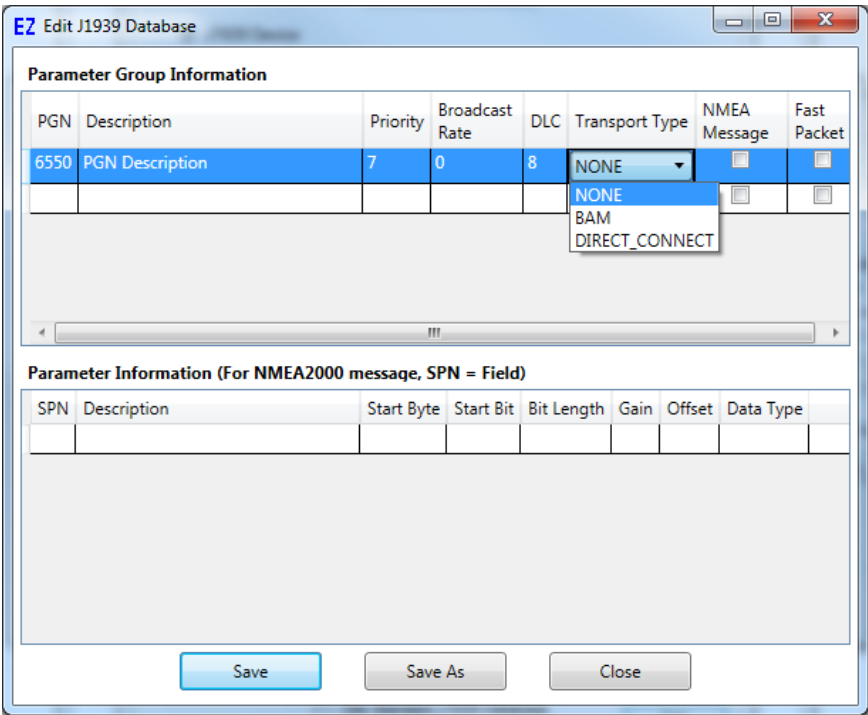

Figure 14-33
**!** The message Transport Type is defined in the database and it determines the type of message (None, BAM or DIRECT\_CONNECT). To set a PGN as a BAM message, it must be configured in the J1939/User database. Figure 14-33 illustrates the configuration options drop-down boxes.